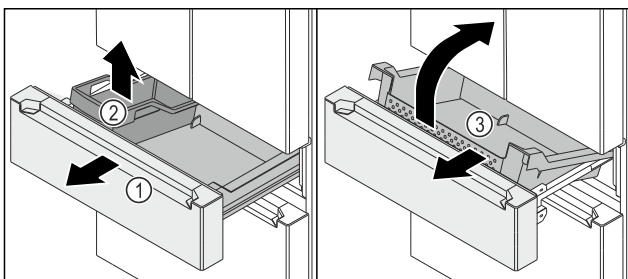

Fig. 161
- Pull out the pull-out cart Fig. 161 (1) as far as it will go.
- Remove the FlexBox Fig. 161 (2).
- Lift up the container Fig. 161 (3) at the front.
- Remove the container Fig. 161 (3) diagonally from the front.